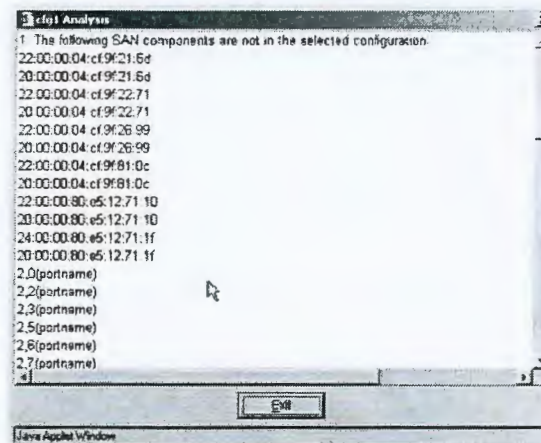

Figure 8-3 Analyze Config Report Example
4. Click the **Analyze Config** button. An analysis window appears. An example of an analysis report is shown in <Link>Figure 8-3.